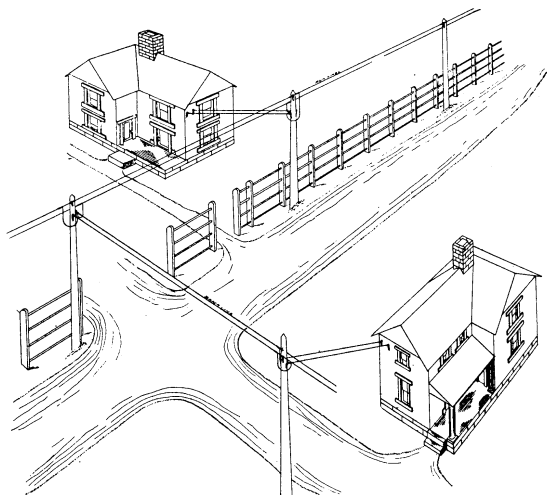

Fig. 3.—View Showing Relation of Branch Wires to the Main Line.
**ROUTE OF THE LINE.**—The line should run past or nearby the buildings in which the telephones are to be placed. It is not necessary to run the main line to the buildings and thus save wire and simplify the construction. Reference to Fig. 3 will make this point clear.